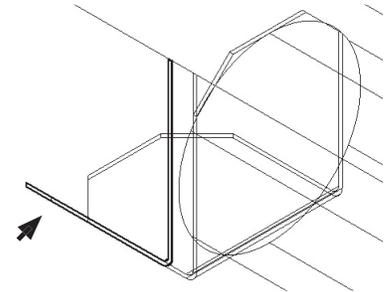

Fig. 43
Step 12. Click Copy and click OK, **Fig. 43**.
Step 3. Click any line of the copied L-bracket, **Fig.43**.